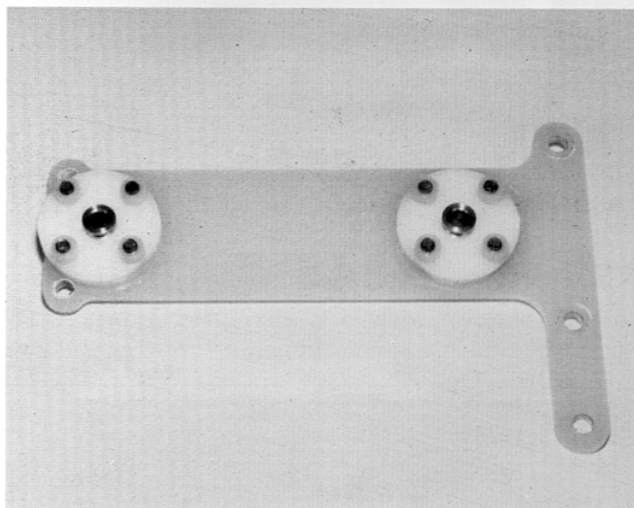

Fig. 13
□ **Figs. 13 & 14**—Now assemble and mount the second rear socket assembly like you did the first one. Except in this socket, the ball **MUST BE VERY FREE, BUT NOT LOOSE**. Now see if the ball is **PERFECTLY FREE**. If it is, good, leave as is.